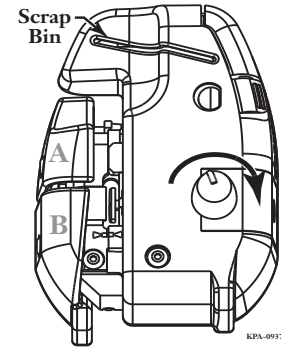

Figure 38 — Cleave and Dispose of Scrap Fiber
- Step 7:** While holding onto the fiber, squeeze Button B and remove the cleaved fiber (Figure 38).